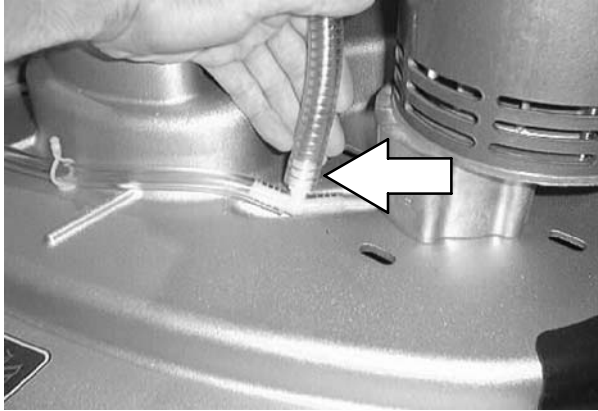

FIG. 10
5. Connect the solution line to the scrub head tee fitting. Refer to FIG. 10.